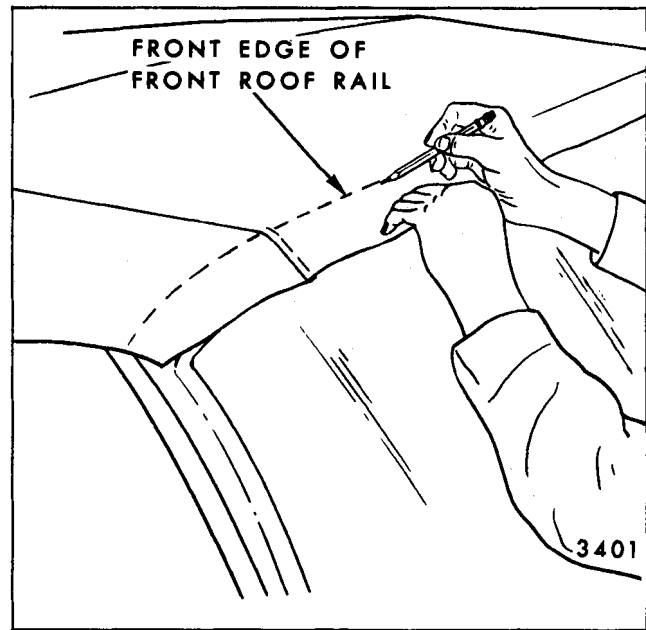

Fig. 12-16-Marking Top Cover at Front Roof Rail
cover straight forward at seams to desired top fullness. While maintaining tension on cover over front roof rail, make pencil mark on cover outer surface along forward edge of front roof rail (Fig. 12-16).
10. Lock front roof rail to windshield header. Pull top cover straight forward at seams to desired top fullness. While maintaining tension on cover over front roof rail, make pencil mark on cover outer surface along forward edge of front roof rail (Fig. 12-16).